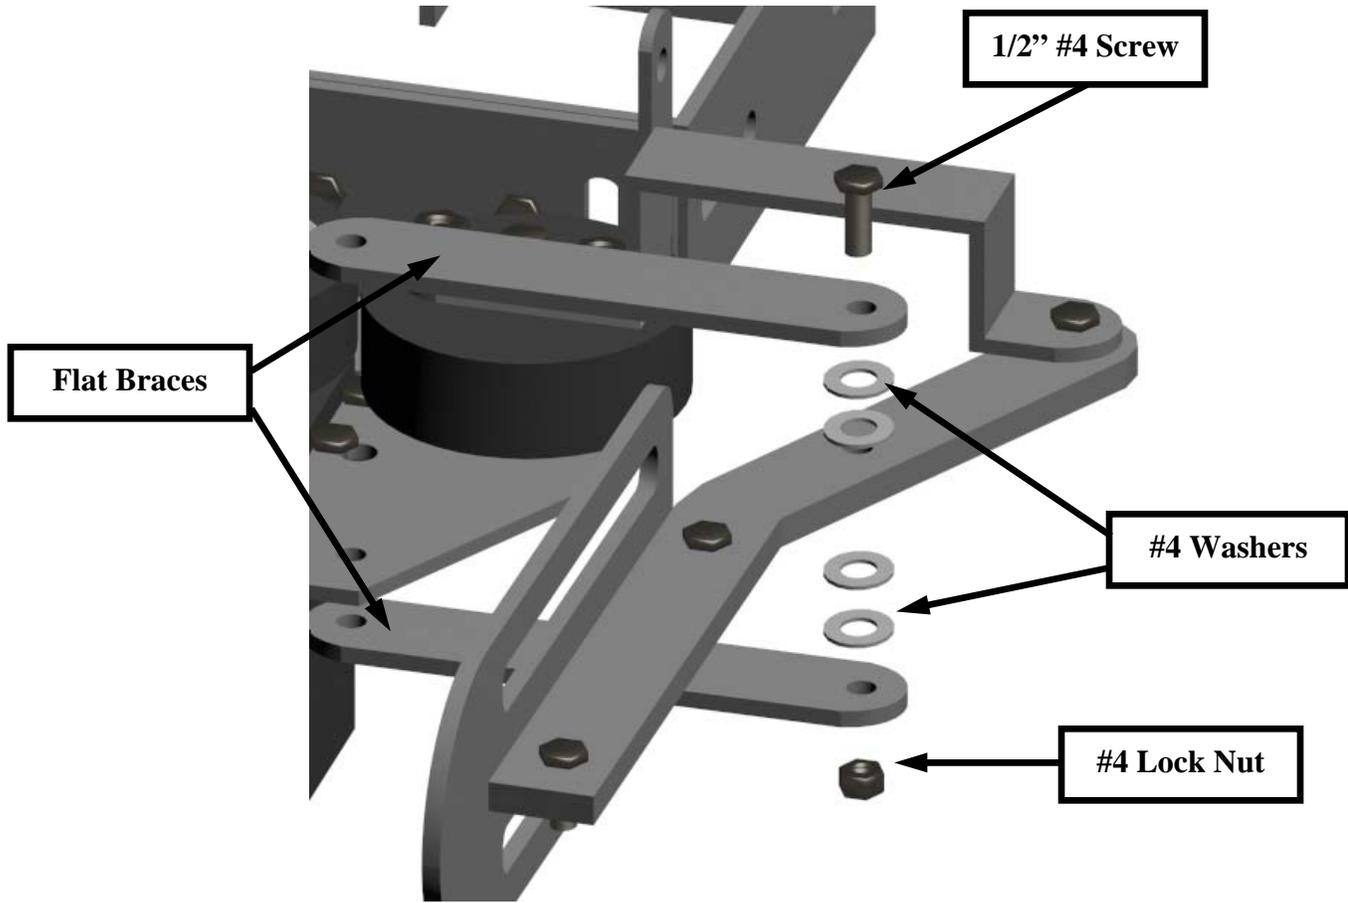

Figure 15
11. Using (1) 1/2" #4 screw, (4) washers and (1) lock nut , install the flat braces as shown in figure 15, 16 and 17. Once again, tighten the lock nut just enough so there is no play in the assembly but loose enough so the assembly can be moved easily by hand.